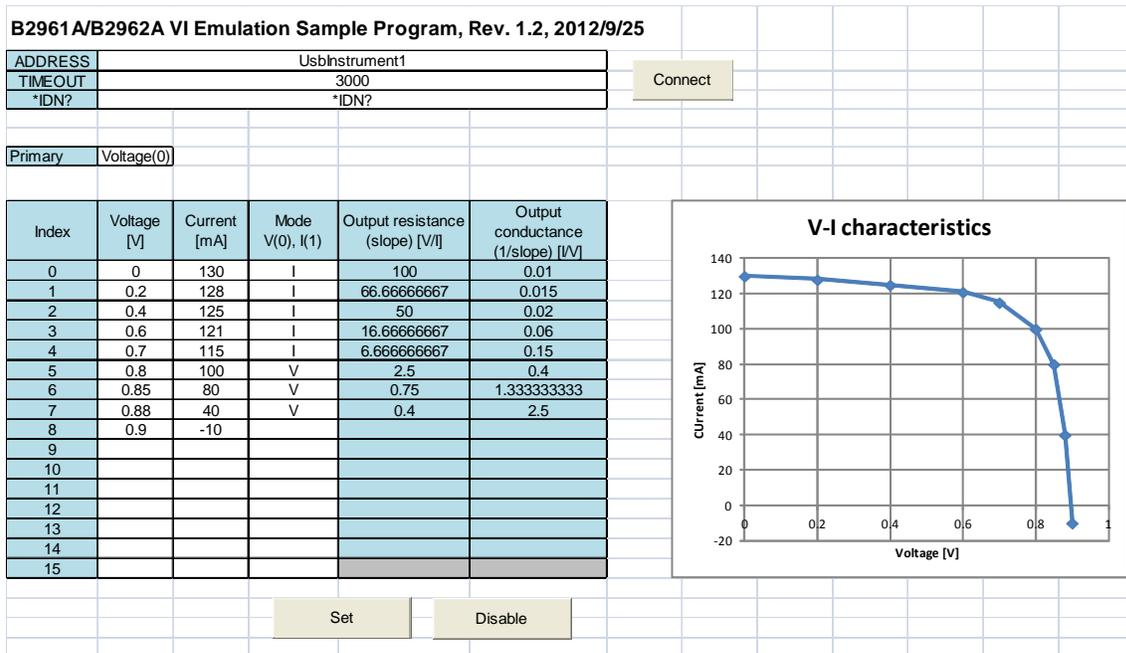

Figure 24 B2961A/B2962A VI Emulation Sample Program settings for solar cell
- Primary source mode (B2961A/B2962A front panel Mode setting): voltage (V)
- V and I source values (in emulation table): See Voltage and Current columns in Figure 24.
- V/I mode (in emulation table): See Mode column in Figure 24.